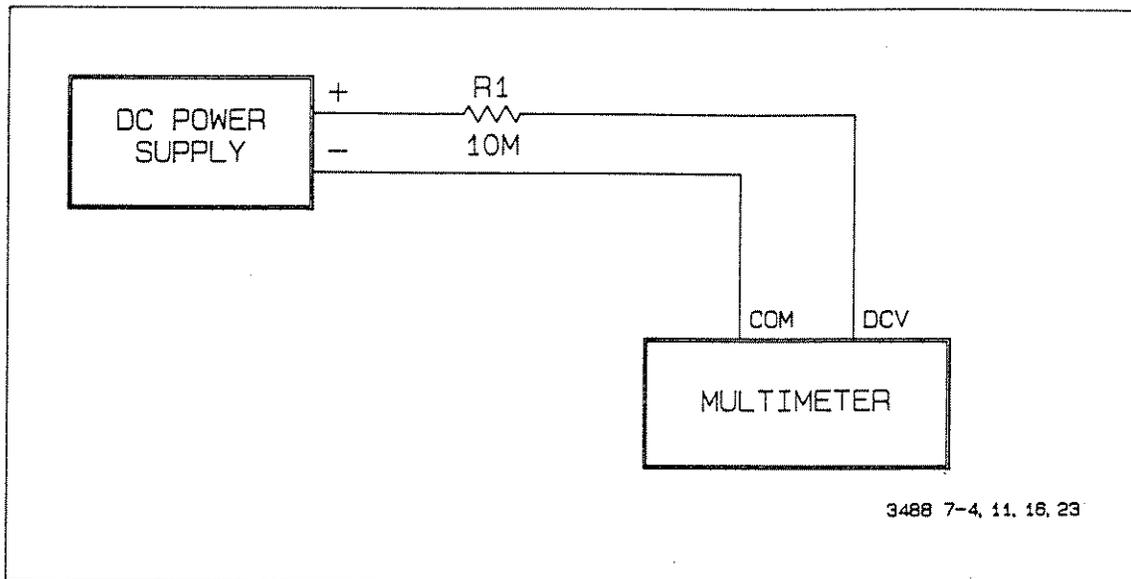

Figure 10-2 DC Isolation Test Set-Up
3. Connect the test equipment as shown in Figure 10-2.